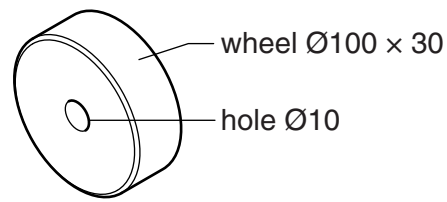

Fig. 14
- (f) Fig. 14 shows one of the wheels for the sit-on toy. The wheels are made from a plastic.